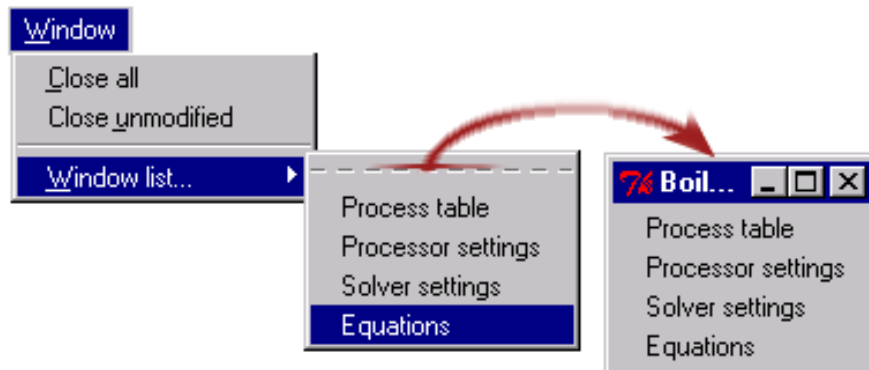

Figure 2.34: Window list example
- Window list: displays a list of currently open windows. This list can be opened as a separate window by clicking on the dotted line as shown in Figure 2.34. Clicking a window name in this list activates the window.